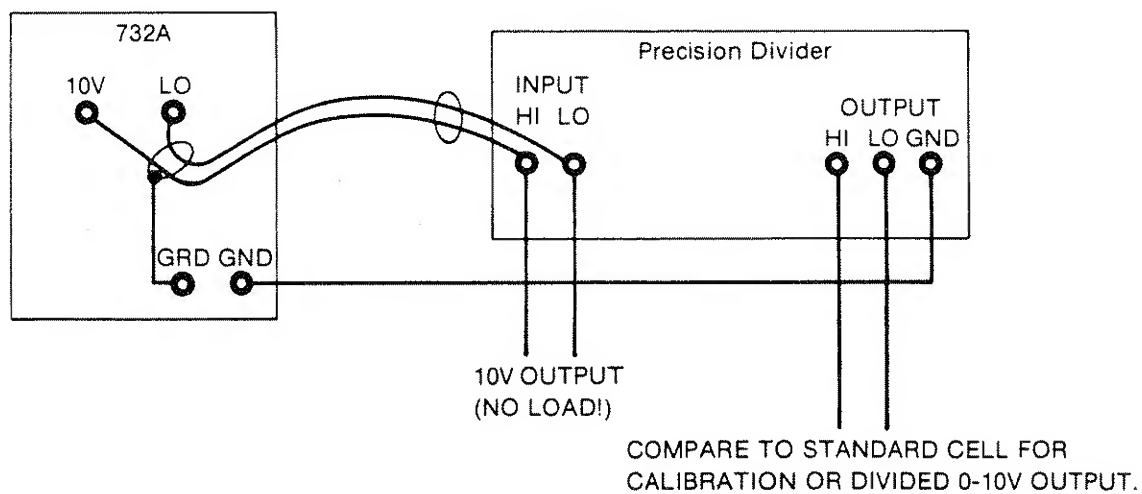

Figure 2-4. 732A/Precision Divider, Providing a Stable, Adjustable Source
1. Connect the equipment as shown in Figure 2-4.